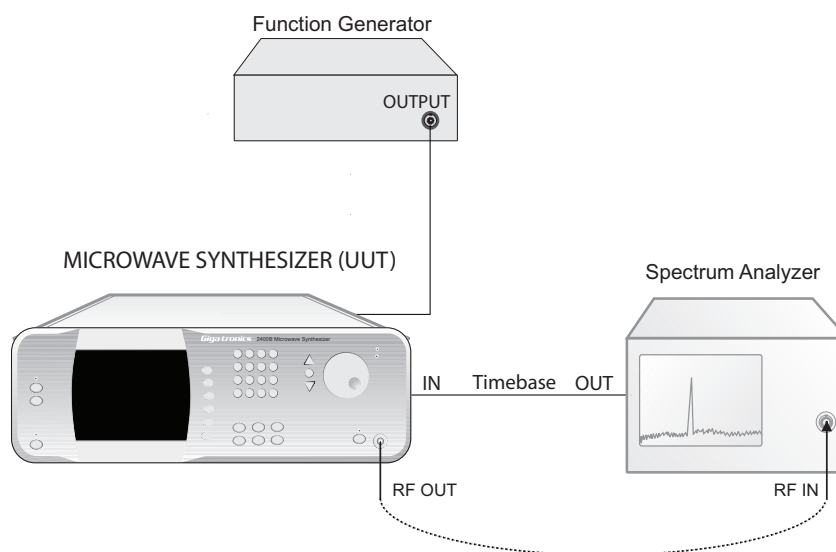

Figure 4-6: FM Deviation Bandwidth and Accuracy Setup
1. Connect the test equipment and UUT as shown in Figure 4-6.